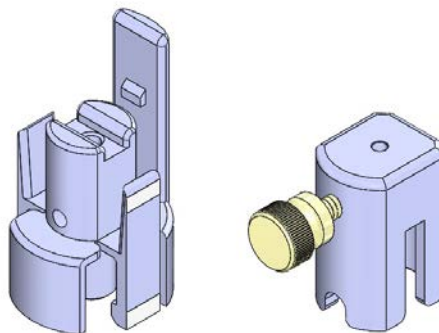

Figure 16: Dock (Left) and Device Lock (Right)
1. Remove the Dock (**See Figure 16**) and Device Lock (**see Figure 16**) from the SMARTFrame package or from the SmartFrame Expanded Accessory Kit (as applicable).